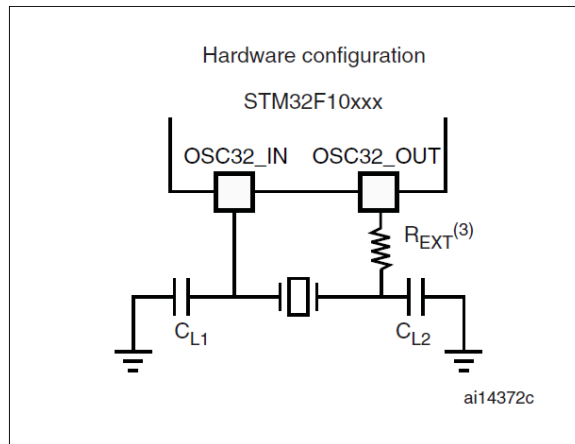

Figure 7. Crystal/ceramic resonators
- LSE external crystal/ceramic resonator (Figure 7)